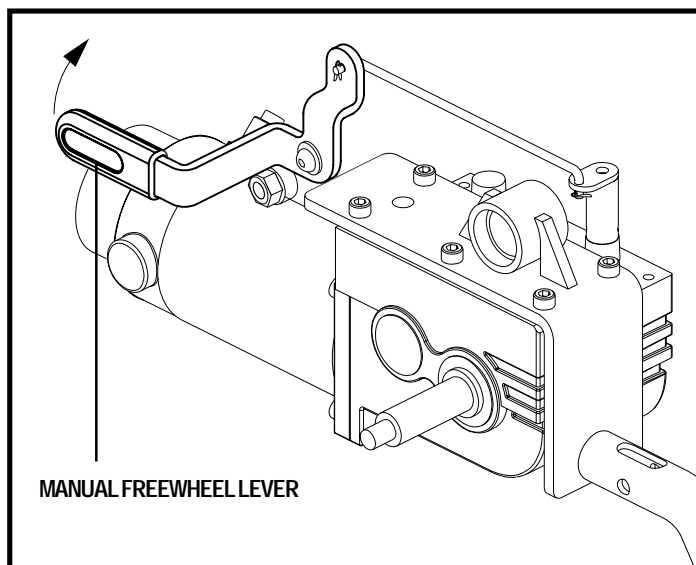

Figure 8. Drive Mode (Drive Engaged)
The Quantum Dynamo 1107 has a manual freewheel lever on each motor. See figures 8 and 9. Manual freewheel levers enable you to disengage the drive motors from the gearboxes and maneuver the chair manually.
2. Pull the two levers upward to engage the drive motors. See figure 8.